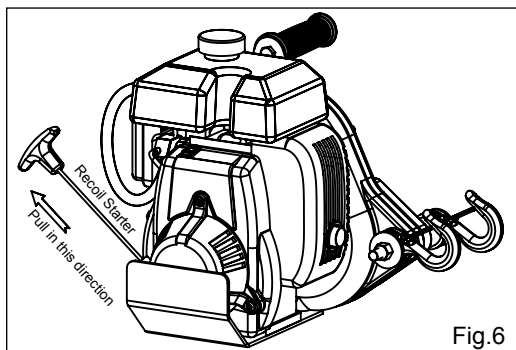

Fig.6
* Pull Recoil Starter in the direction as shown on fig.6.